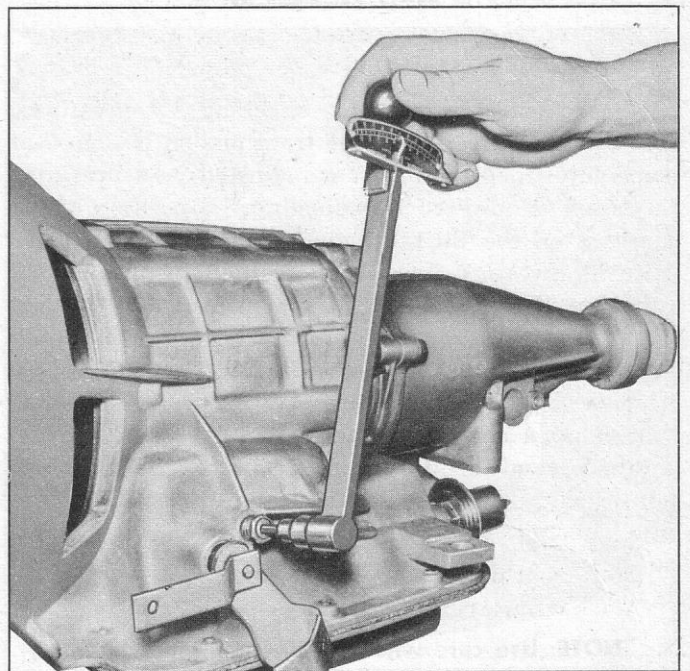

Fig. 43—Low Band Adjustment
Tighten the low servo adjusting screw to 40 inch lbs. using torque wrench J-5853 (fig. 43). The input and output shaft must be rotated simultaneously to properly center the low band on the clutch drum. Then back off four (4) complete turns, and tighten the lock nut.